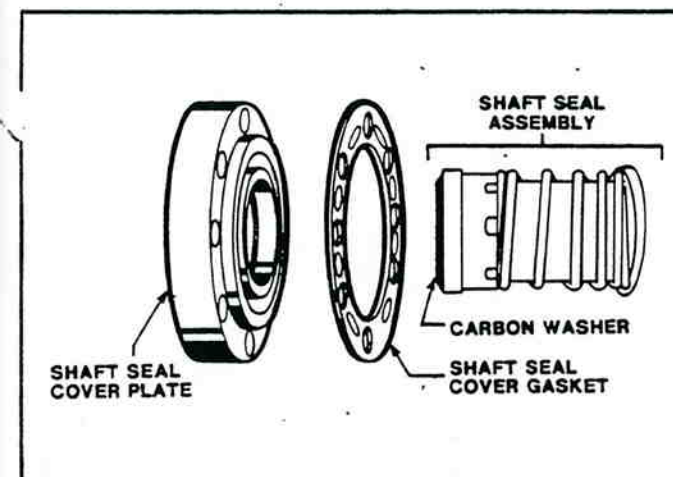

Figure 16-41: Shaft Seal Assembly
17. Remove new carbon washer from new seal assembly (figure 16-41). Lubricate shaft and neoprene seal bellows where it contacts the shaft.